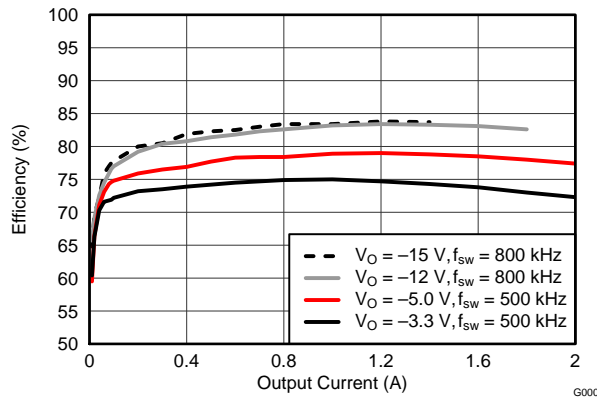
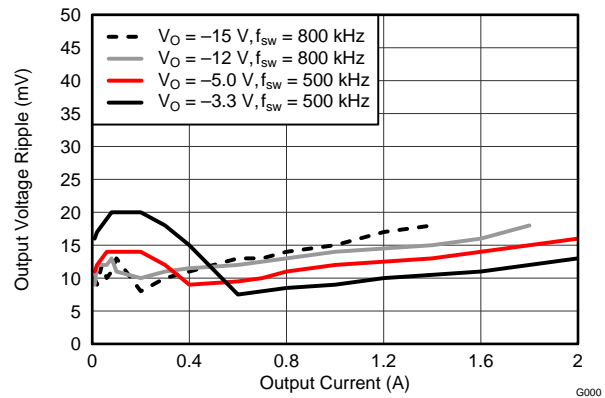
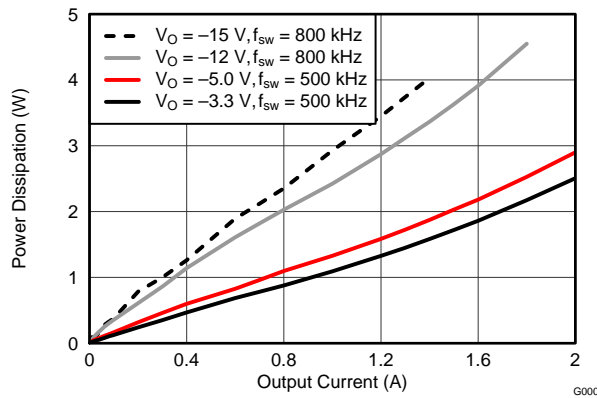

Figure 19. Efficiency vs. Output Current
Figure 20. Voltage Ripple vs. Output Current
Figure 21. Power Dissipation vs. Output Current
- (1) The electrical characteristic data has been developed from actual products tested at 25°C. This data is considered typical for the converter. Applies to Figure 19, Figure 20, and Figure 21.
- (2) At light load the output voltage ripple may increase due to pulse skipping. See for more information. Applies to Figure 20.